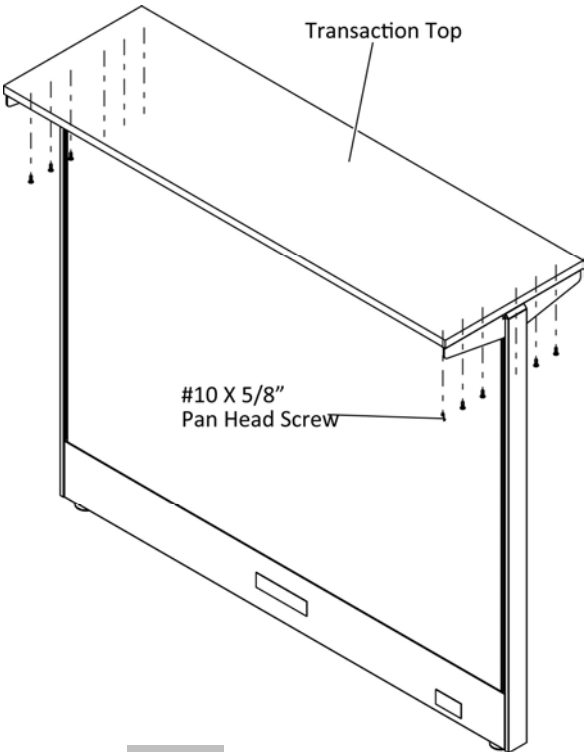

Figure 2
3. Position the transaction top over the brackets and align the holes in brackets to pilot holes provided in underside of transaction top, (Figure 2).